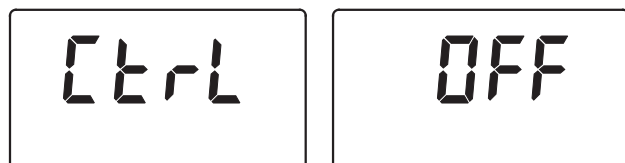

FIG. 40
2. Press the SELECT button several times, until "Ctrl" flashes in the display (See Figure 40).